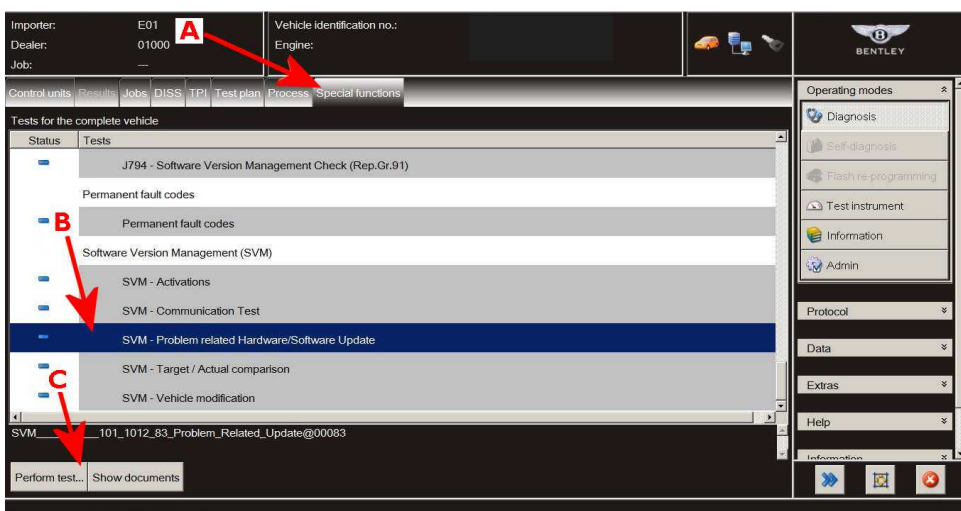

Figure 3
- Once the control module sweep within Guided Fault Finding is complete, Select – Special functions as shown in Figure 3 (point A)